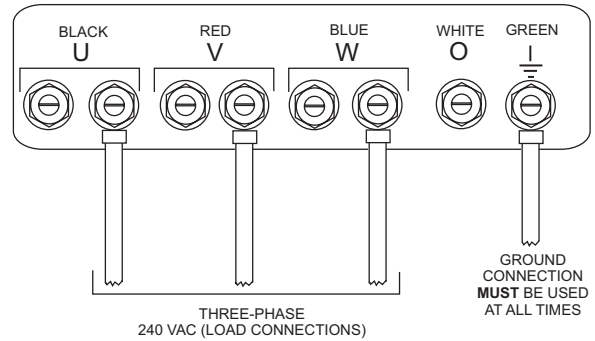

Figure 27. UVWO Terminal Lugs 3Ø-240V/1Ø-139V Connections
2. Connect the load wires to the UVWO terminals as shown in Figure 27.